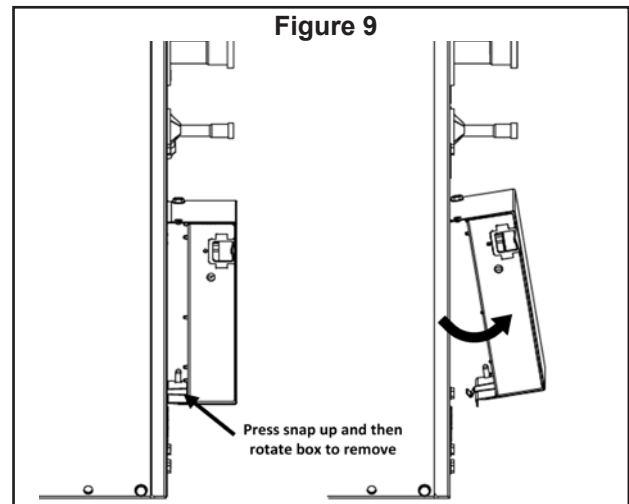

Figure 9
1. Clear all A2L sensor wires well away from the braze connections both inside and outside the coil cabinet. If needed, the control box may be removed from the lineset panel by pressing outward on snap and rotation out for clearance. See Figure 9.